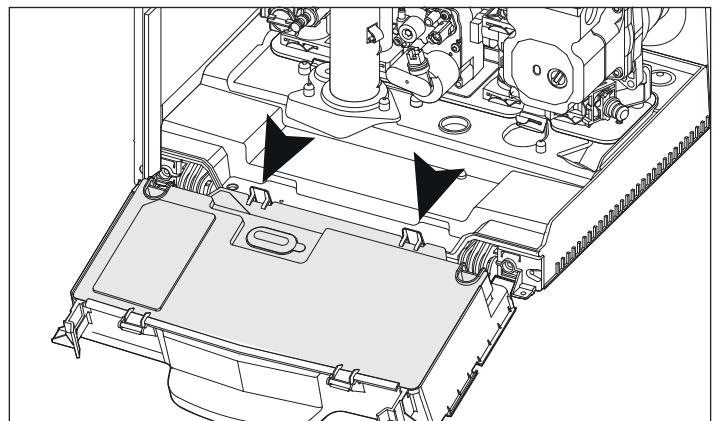

Figure 65 - 120V Connections for DHW and CH Circulators
5. Disconnect the two clips See Figure 65.